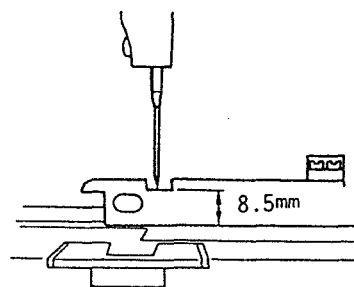

Fig. 2
<p>Place a timing gauge on the throat plate as illustrated in Fig. 2, and bring needle bar ② to the highest dead point. Loosen needle bar connection screw ①, and adjust the height of the needle bar as illustrated in Fig. 2 by placing needle clamp screw ⑤ in the direct side-to-side center of the slit taking care not to allow the screw to come in contact with the slit edge as illustrated in Fig. 3.</p>  <p style="text-align: center;">Fig. 3</p>	<ol style="list-style-type: none"> 1. Changing the needle bar height affect the looper timing, resulting in stitch skipping or loose stitches. So do not change the needle bar height. 2. Avoid adjusting the needle bar height using the clamping screw ④ in the needle bar lifting shaft. Doing so may change the stroke of the needle bar.